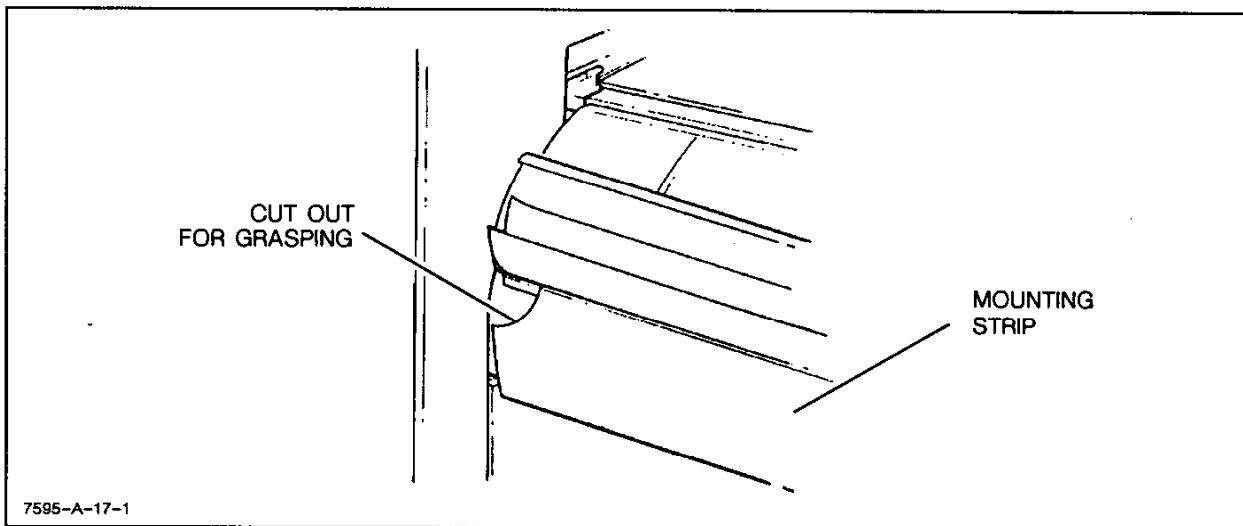

Figure 6-1. Isolator Strip Removal
- Grasp the left end of the mounting strip and carefully pull it away from the plotter until it is completely off. See Figure 6-1.